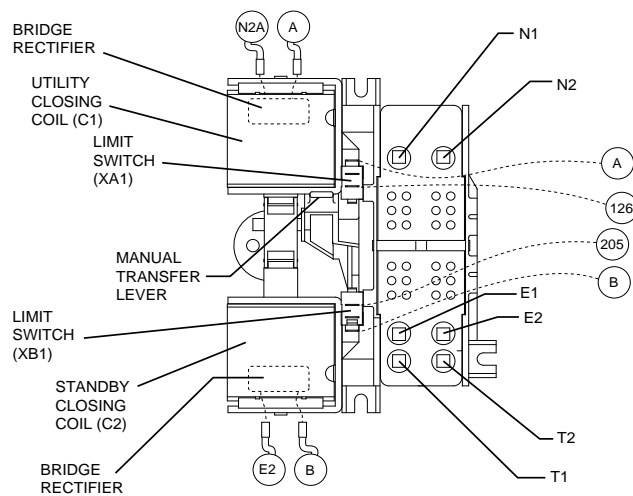

Figure 4. The “W/V-Type” Transfer Mechanism
See Figure 4. This coil is energized by rectified utility source power, to actuate the load contacts to the UTILITY power source side. When energized, the coil will move the main contacts to an “overcenter” position. A limit switch will then be actuated to open the circuit and spring force will complete the retransfer to STANDBY. A bridge rectifier, which changes the utility source alternating current (AC) to direct current (DC), is sealed in the coil wrappings. If coil or bridge rectifier replacement becomes necessary, the entire coil and bridge assembly should be replaced.